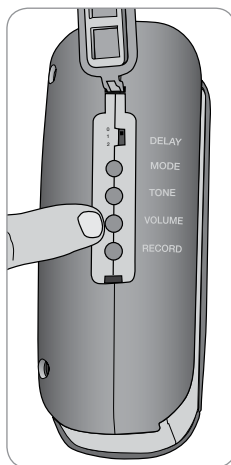

Fig. 11
4. Press VOLUME button on left side of alarm to scroll through the volume selections (Fig. 11).
5. Each time you press the button, the volume changes and a two (2) second sample plays.